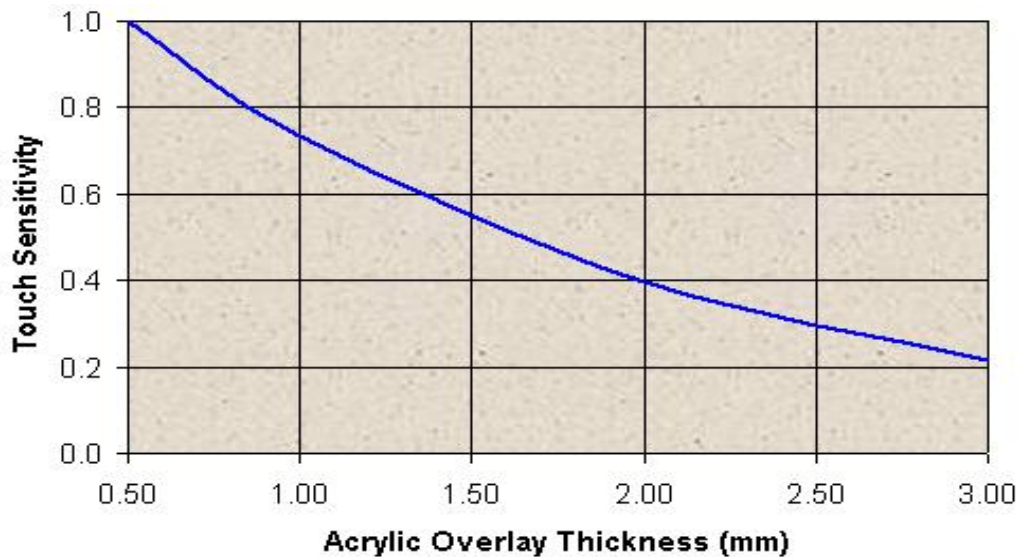

Figure 2 : Touch Sensitivity versus Acrylic Overlay Thickness
- Figure 2 : Touch Sensitivity verses Acrylic Overlay Thickness.....5*